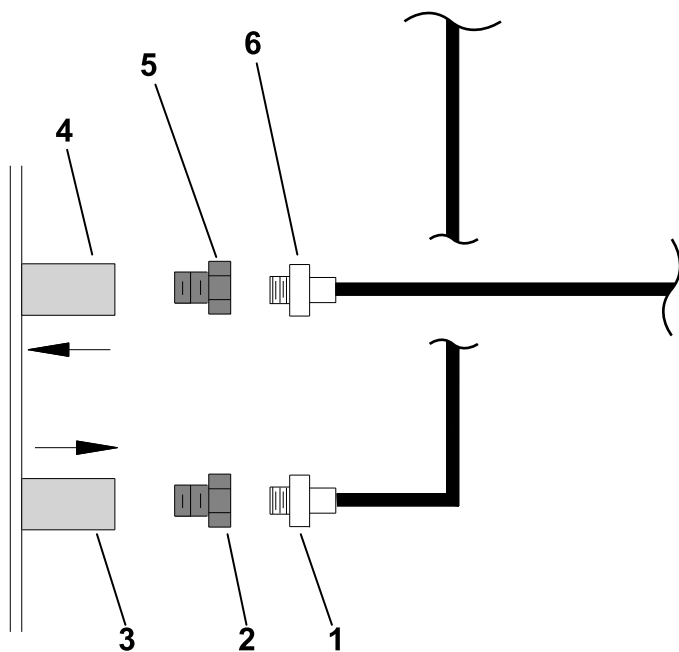

Figure 17
1. Securely install the straight coupler (3/8 NPT) to the hydraulic hose 254 cm (100 inches, 8 FJ to 6 MP) as shown in Figure 17.
2. Securely install the straight coupler (3/8 NPT) to the hydraulic hose B—330 cm (130 inches, 8 MP to 6 MP) as shown in Figure 17.